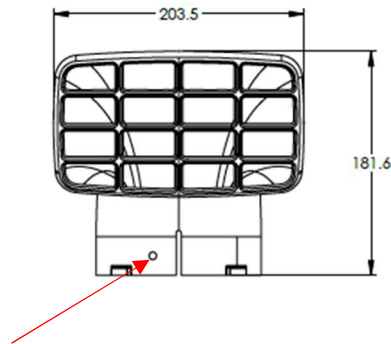

Figure 12
2. Mark the attachment clip hole location on the snorkel body and drill a 1/4" hole. (See fig. 12)